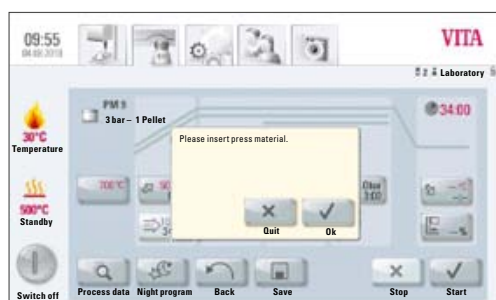

Figure 3
- Display shows figure 3 "Please insert press material"